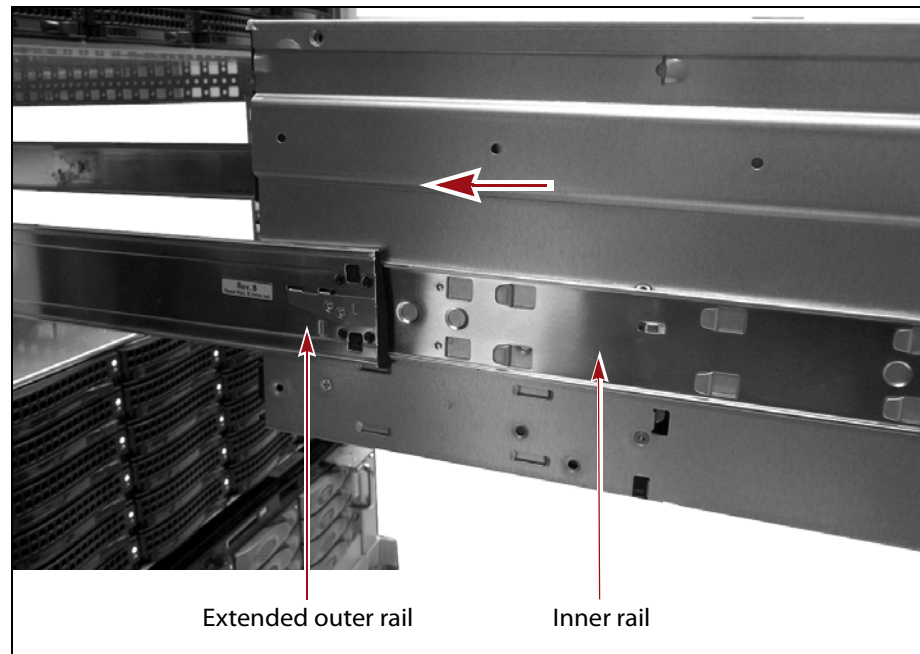

Figure 36 Extend outer rails and slide chassis into rack.
1. Pull the center section of the outer rails out of the rack until they are fully extended (see Figure 36 on page 46).